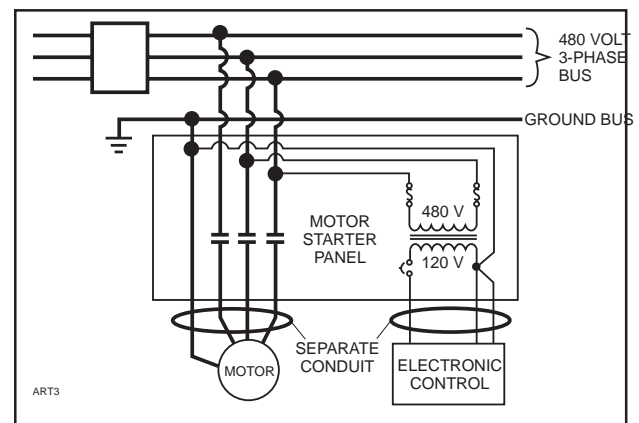

Figure 3
**Do not mix wires of different voltages in conduit.** An example of this would be the installation of a screw compressor package. The motor voltage is 480 volts and the panel control power is 120 volts. **The 480 volt circuit must be run from the motor starter to the motor in its own conduit. The 120 volt circuit must be run from the motor starter control transformer to the control panel in its own separate conduit.** If the two circuits are run in the same conduit, transients on the 480 volt circuit will be inducted into the 120 volt circuit causing functional problems with the electronic control. Dividers must be used in wire way systems (conduit trays) to separate unlike voltages. The same rule applies for 120 volt wires and 220 volt wires. **Also, never run low voltage wires in the same conduit with 120 volt wires.** (Figure 3)